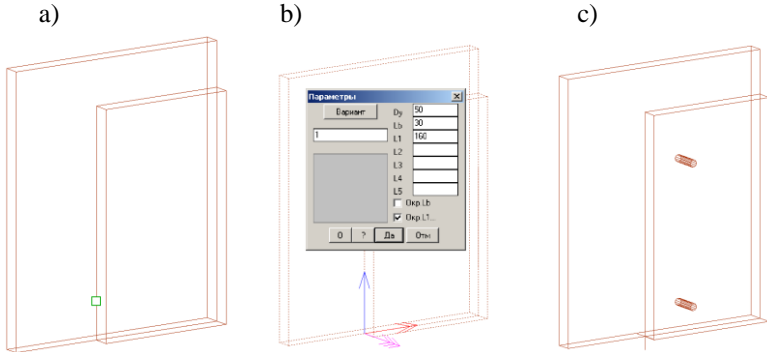

Fig. 3.80 Fixing Parts by specifying edge
**point #N / Base edge:* Specify a Part edge, see fig. 3.80.
**next #L / 2-d part:* Confirm the second highlighted Part or specify another Part, see fig. 3.80 b). Enter the Fasteners parameters in the dialog window.
Note. “Dy” determines a shift of Fastener group along Y-axis, see fig. see fig. 3.80 b). This is a distance between specified edge and Fastener group.